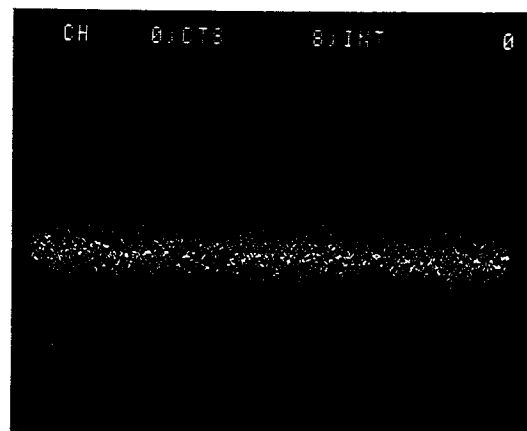

Figure 4.4.
6. Depress ACQUIRE → ON. The TN-1705/1706 will now sequentially count pulses within each dwell interval until end of sweep. For MCS (single sweep), acquisition is automatically terminated at the end of sweep. For MCSR (multiple sweeps), acquisition is terminated manually by depressing ACQUIRE → OFF. Refer to figure 4.4 above; MCSR has been selected, using FULL memory and a channel dwell interval of 30 mSec. Acquisition was manually